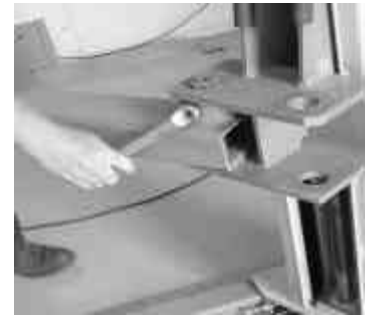

Fig.23
5. Draai nu de borgbout in de hefarm vast (Fig.23)